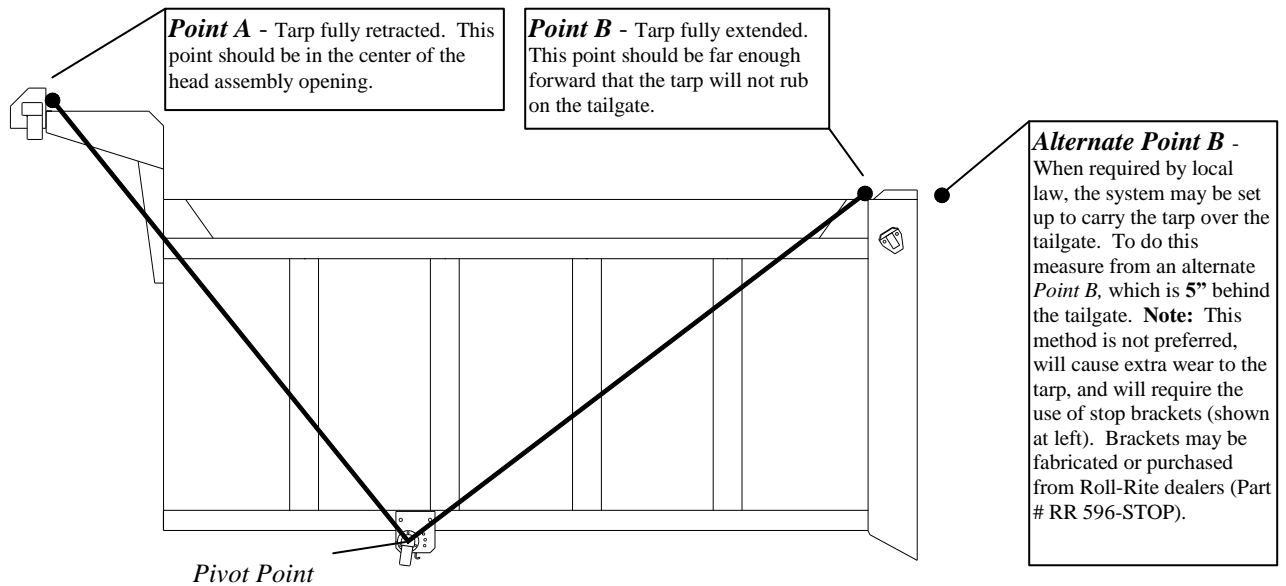

Fig. 10
3. Adjust the location of the assembly until the center of the pivot pin is the same distance from **Point A** as from **Point B** shown in **Figure 10** on the following page.